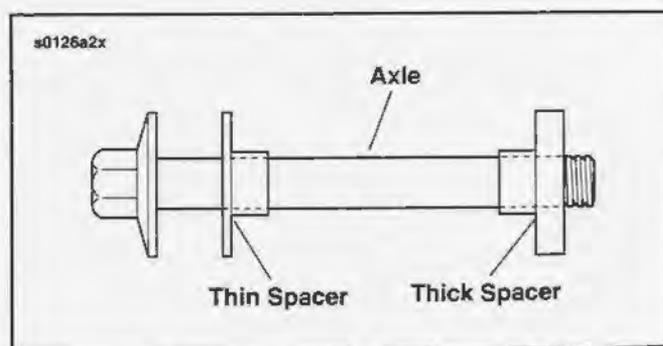

Figure 2-97. Spacer Orientation- FLSTS
6. See Figure 2-97. Install spacer to axle with step towards the front wheel.